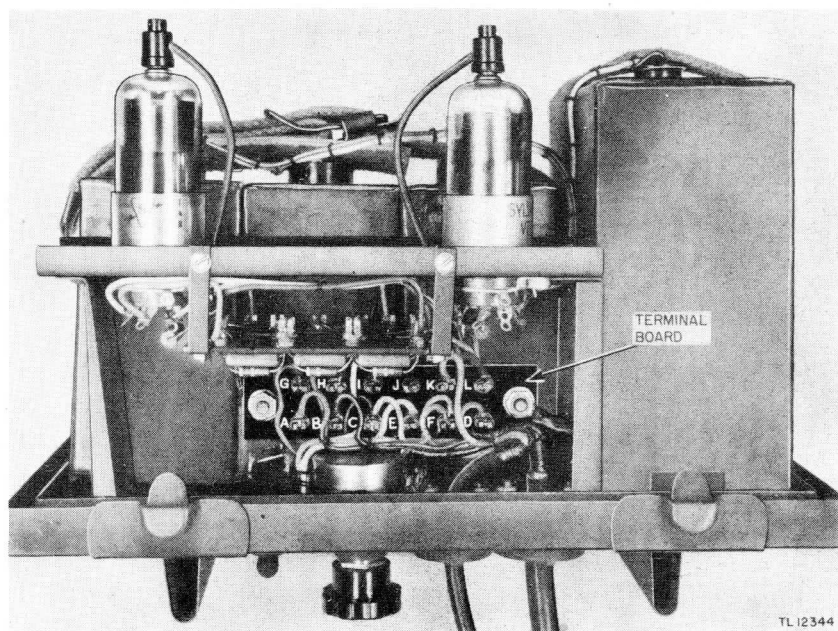

Figure 17. Amplifier Assembly AM-32/PRS-1 with cover removed, terminal board.
17. **HEADSET OR RESONATOR TESTS BY OPERATOR.** Remove the amplifier assembly from Bag CY-90/PRS-1. Release the four drawbolts and remove the cover from the amplifier assembly. Momentarily connect the plug of the headset or resonator across the A battery. (Touch the tip of Plug PL-54 or PL-540 to terminal E and the sleeve of the plug to terminal C of the terminal strip of the amplifier (fig. 17)). If the headset or resonator is operating properly, sharp clicks will be heard as contact is made and broken.